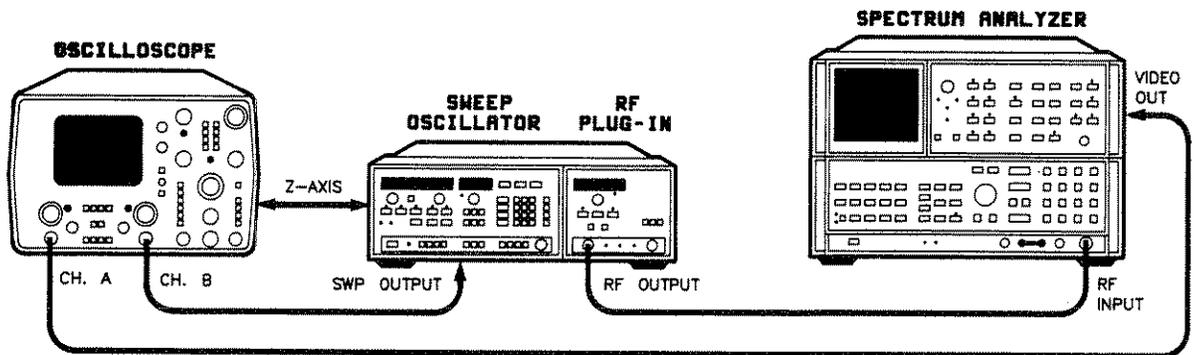

Figure 5-11. Band Overlap Adjustment Test Setup
1. Connect the equipment as shown in figure 5-11. Preset both instruments.